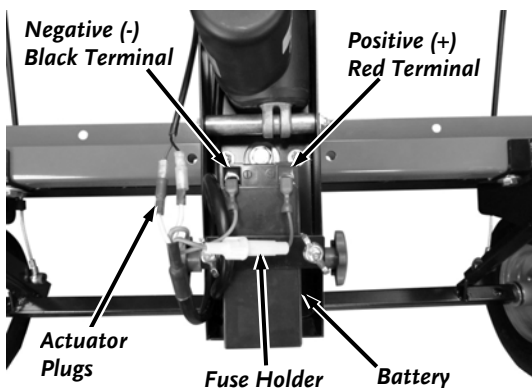

Figure 30
50. Connect the two Actuator Plugs to the Harness (**Figure 30**).